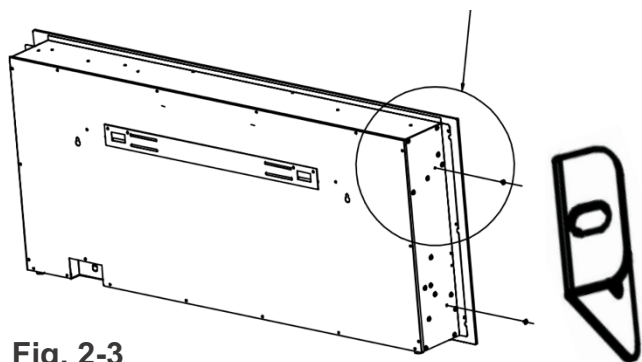

Fig. 2-3
- Use the four mounting metal brackets **H** (supplied) to lock the appliance to the wall, see **Figure 2-3**